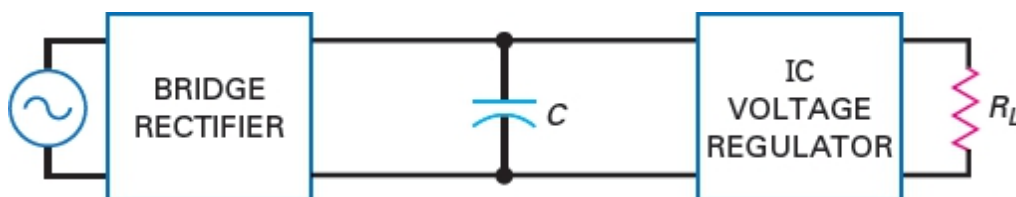

Figure-69 Voltage-regulator filtering
- Figure-69 illustrates the idea. An IC voltage regulator, one type of integrated circuit, is between the filter capacitor and the load resistor. This device not only reduces the ripple, it also holds the output voltage constant.